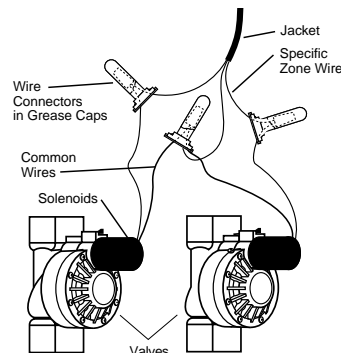

FIGURE 22: Connecting Timer Wires to Valves
- Each valve has two wires. One wire is to be connected as the common. The common wires for all the valves can be connected together to one common wire going to the timer. The other valve wire is to be connected to the specific station wire that will control that valve [See Figure 22].